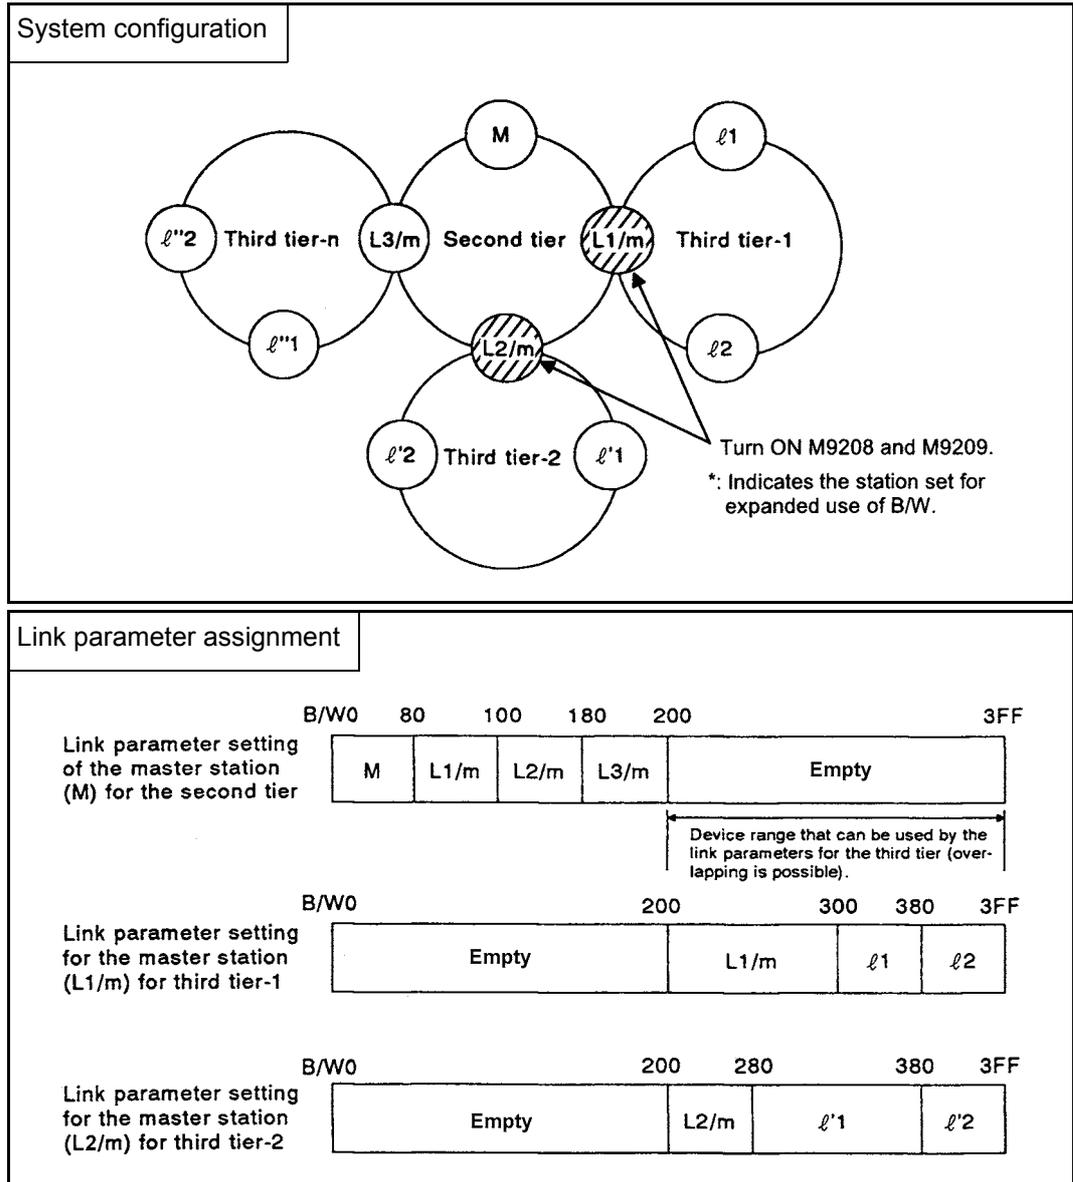

Fig 5.8 Expanded use example of link relay (B) and link register (W)
In a system with two or more master stations for the third tier as illustrated in Fig 5.8, when the link relay and link register exceeds the above-mentioned points, they can be expanded. In this case, the communication range that can be used is different from the communication range that can be used without expanding the range.
The device range that is not assigned to the link parameters for the second tier can be assigned to the link parameters for the third tier (third tier-1, third tier-2, ... third tier-n). For this assignment, the same range can be assigned to different data link. For example, when 512 points of B/W0 to 1FF are used for the second tier as illustrated in Fig 5.8, the device range of B/W200 to 3FF can be redundantly assigned to the third-tier-1 link and also to the third-tier-2 link.
- (3) Data communication range with expanded link relays (B) and link registers (W)
- (a) Link relays (B) and link registers (W) used by the two-tier link cannot be used for sending data to the local stations connected to any of the third-tier links. They can be used to send data to the master stations (L1/m, L2/m,, Ln/m) for the third tiers. This is because these master stations execute communication with the master station for the second tier as local stations for the second tier.
The expanded link relay (B) and link register (W) device range that can be used for communication in the system configuration in Fig 5.8 is shown in Table 5.3.